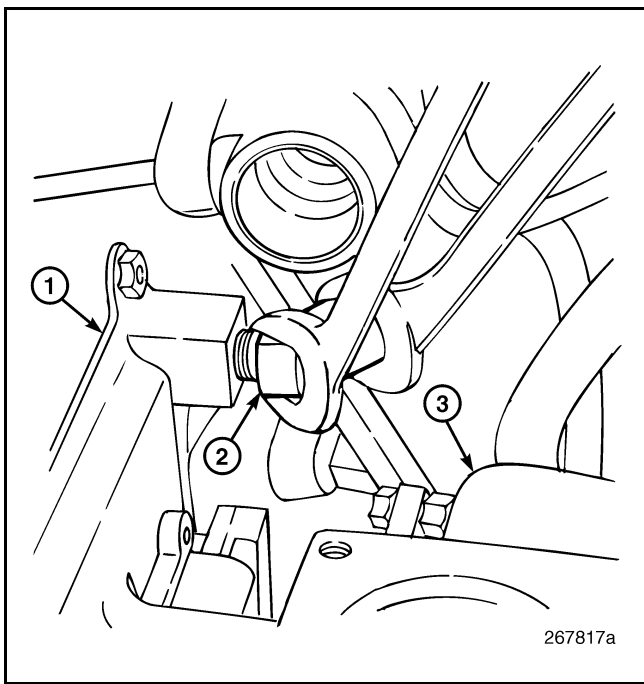

Figure 464 — Cooling Plate Fuel Lines
7. Disconnect the fuel lines at the inlet and outlet ports at the top of the cooling plate (Figure 464) and position the lines out-of-way.
3. Connect the fuel lines to the inlet and outlet ports of the cooling plate (Figure 464).